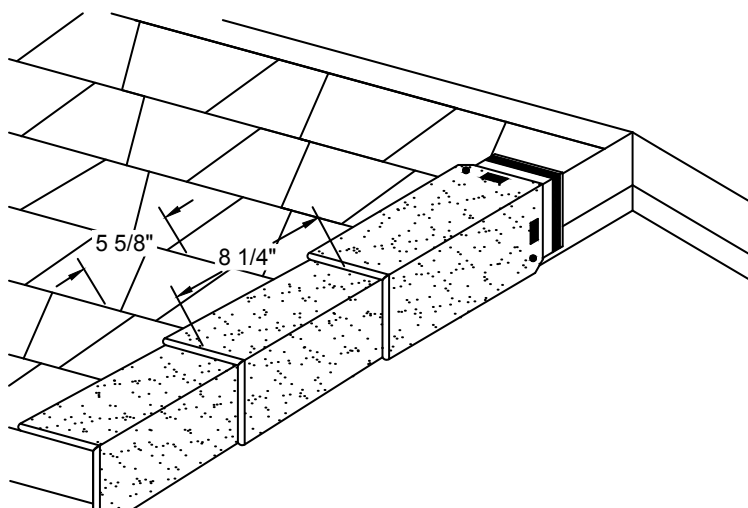

Figure 26 - Installation of EZ-Ridge™ Shingles on Rake Edges of the Roof
2. Have the high-profile, finished ends of EZ-Ridge™ shingles in the lowest position. (See Figure 26)